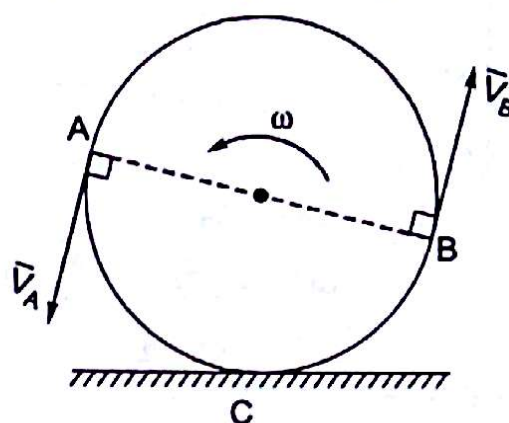

Fig. 1.32
1.11 A and B are the end points of a diameter of a disc rolling along a straight line with a counter clockwise angular velocity as shown in Fig. 1.32. Referring to the velocity vectors \vec{V}_A and \vec{V}_B shown in figure.